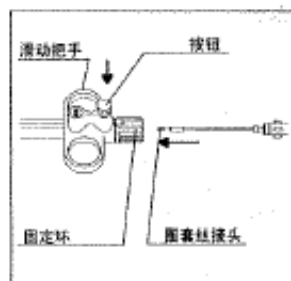

Fig 3.2
3. Press the button on the sliding handle; insert the core joint of the electrode into the retaining ring (see fig 3.2)